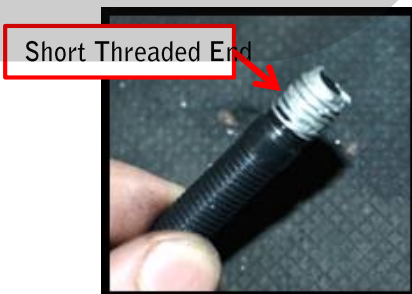

Figure 10d
- e) Apply a small amount of anti-seize coating to the short threaded end of the provided studs as shown in **Figure 10d**.